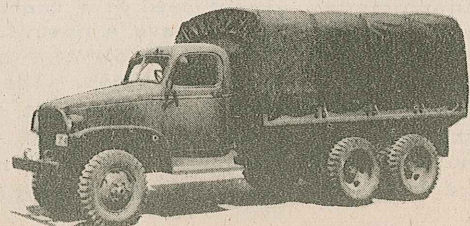

FIG. 2. 2½-TON, 6X6, TRUCK
*The 2½-ton, 6 x 6.*—This vehicle is the basic Army truck (Fig. 2). It is manufactured in two wheel bases as a general-purpose vehicle, cargo carrier, gasoline tanker, and prime mover for the 75-mm. field gun and the 105-mm. howitzer.